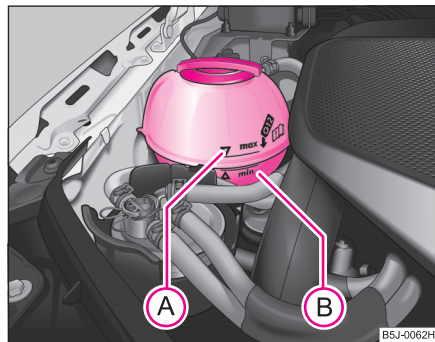

Fig. 146 Engine compartment: Coolant expansion bottle
- Check the level of coolant in the coolant expansion bottle ⇒ fig. 146. The coolant level when the engine is cold must lie between the “MIN” (B) and “MAX” (A) markings. The level may also rise slightly above the “MAX” marking when the engine is warm.
- Place a cloth over the cap of the coolant expansion reservoir ⇒ fig. 146 and unscrew the cap **carefully** by turning it to the left ⇒ .